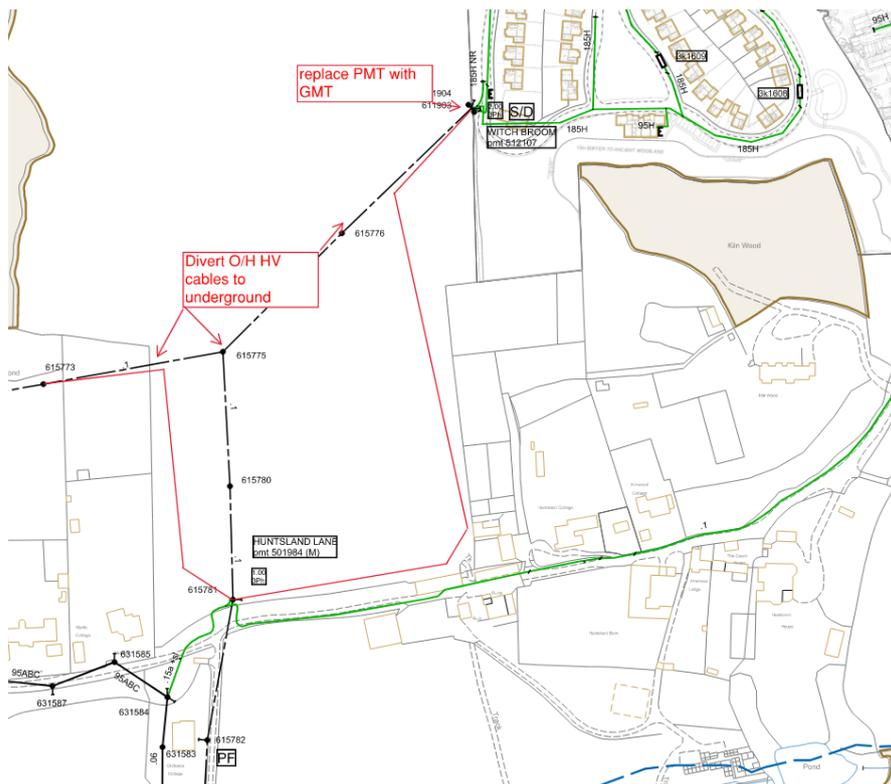

Figure 8: HV overhead lines to be diverted
5.2.1 The HV overhead lines existing on the site are currently clashing with the illustrative masterplan and potentially constraining the land arrangement and use. A diversion budget estimate from UKPN was requested for a feasible solution to divert the overhead HV lines routing through the site. To divert the lines, UKPN have proposed to relocate the sections north of the Huntsland Private Drive to below ground. The works also include removing poles and the existing pole transformer and replacing it with a ground mounted substation (Figure 8). **Please note the routes shown are indicative.**